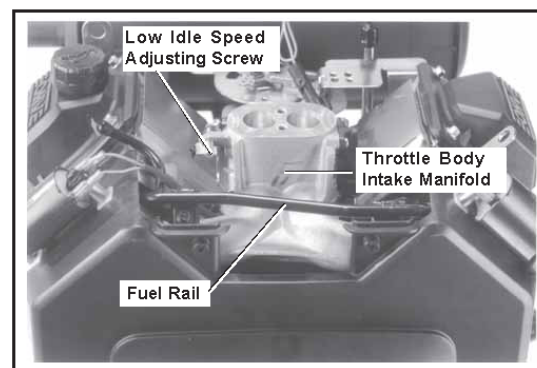

Figure 22. EFI Throttle Body Manifold.
3. Turn the low idle speed adjusting screw in or out and check RPM with a tachometer. See Figure 22.